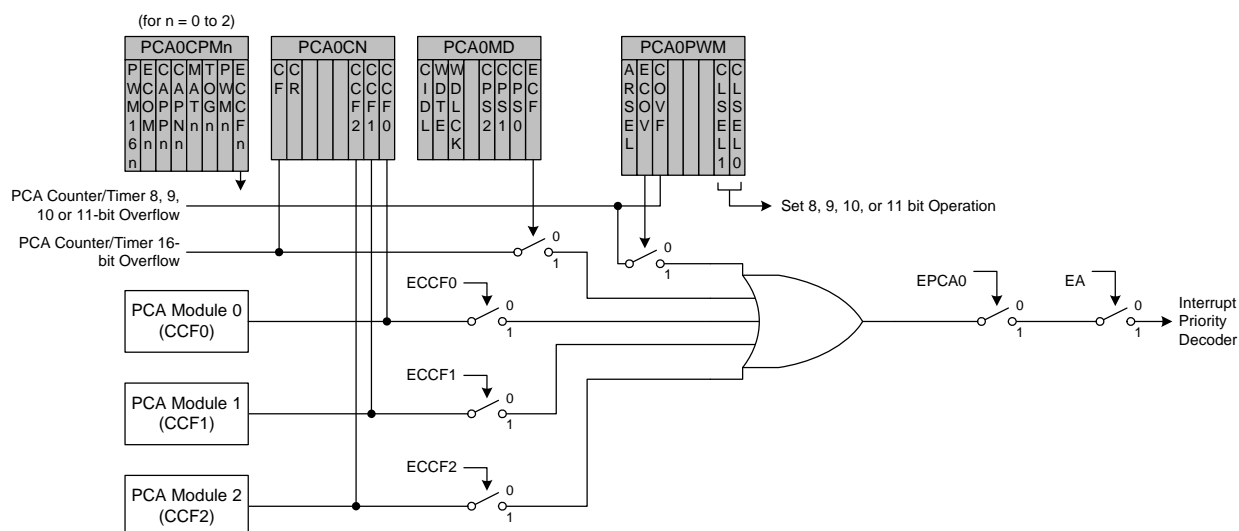

Figure 26.3. PCA Interrupt Block Diagram
Figure 26.3 shows a diagram of the PCA interrupt tree. There are five independent event flags that can be used to generate a PCA0 interrupt. They are: the main PCA counter overflow flag (CF), which is set upon a 16-bit overflow of the PCA0 counter, an intermediate overflow flag (COVF), which can be set on an overflow from the 8th, 9th, 10th, or 11th bit of the PCA0 counter, and the individual flags for each PCA channel (CCF0, CCF1, and CCF2), which are set according to the operation mode of that module. These event flags are always set when the trigger condition occurs. Each of these flags can be individually selected to generate a PCA0 interrupt, using the corresponding interrupt enable flag (ECF for CF, ECOV for COVF, and ECCFn for each CCFn). PCA0 interrupts must be globally enabled before any individual interrupt sources are recognized by the processor. PCA0 interrupts are globally enabled by setting the EA bit and the EPCA0 bit to logic 1.